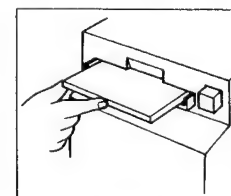

Figure 19
- 2) Insert the cartridge into the cartridge loading slot. (Figure 19)